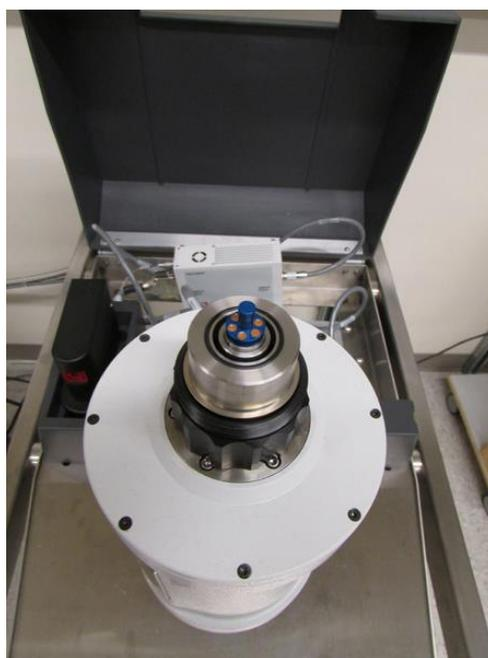

Figure 6. Inserted sample rod.
2) Screw the sample holder onto the sample rod and gently insert that into the VSM. The end of the rod is held in place by a set of magnets, so you will feel a tug as the rod seats itself into place (Figure 6).